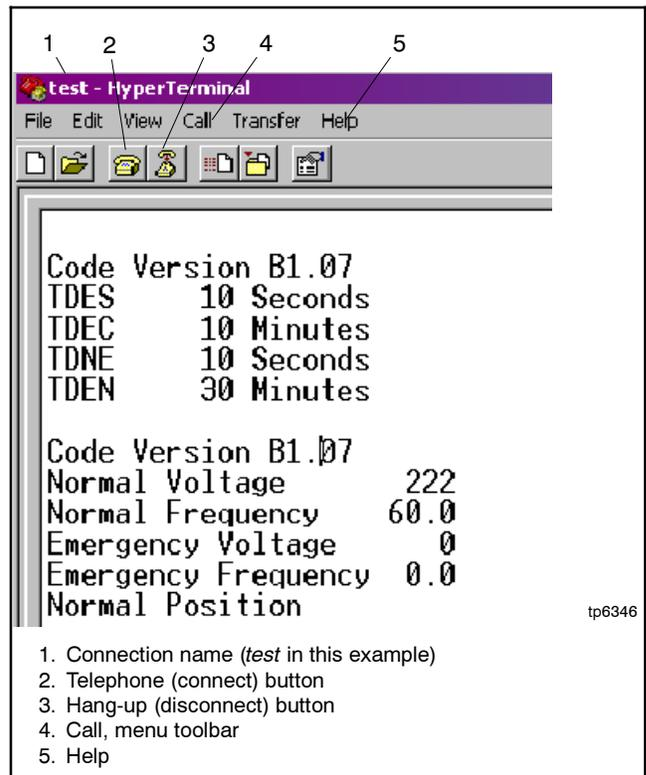

Figure 5-9 Typical Hyper Terminal Screen
5. To connect to the ATS, select Call→ Call from the menubar or click on the telephone button. See Figure 5-9. When the connection is established, data similar to that shown in Figure 5-9 will begin to appear on the screen. New data appears every 30 seconds or so.
6. To disconnect, select Call→ Disconnect or click on the hang-up button on the toolbar. See Figure 5-9.
The data shown in HyperTerminal alternates between two sets. See Figure 5-9.